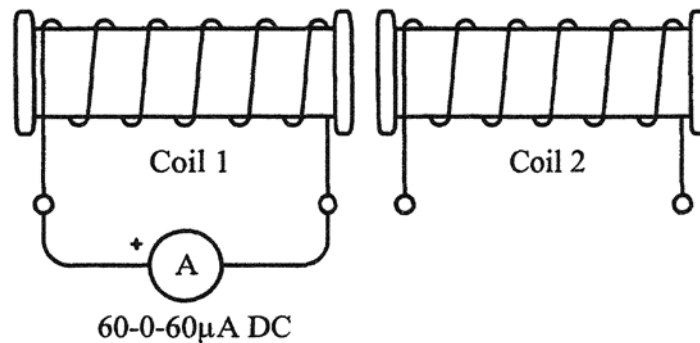

Figure 4
18. Reconnect the circuit as shown in Figure 4, with the soft iron core removed.
22. Insert the soft iron core into the coil. Ensure that circuit is connected as shown in Figure 4.